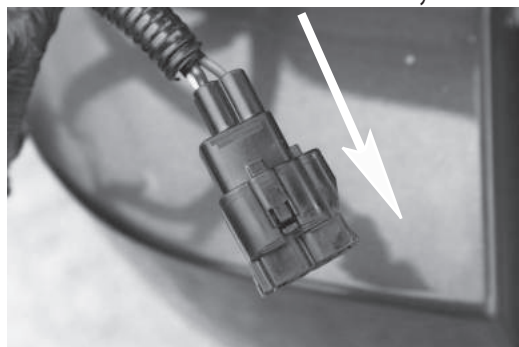

Figure 2
4. Press down on Female 4-Way connector and pull in direction shown in **Figure 2** to separate from RV harness. Inspect connector for dirt and debris and clean if necessary.